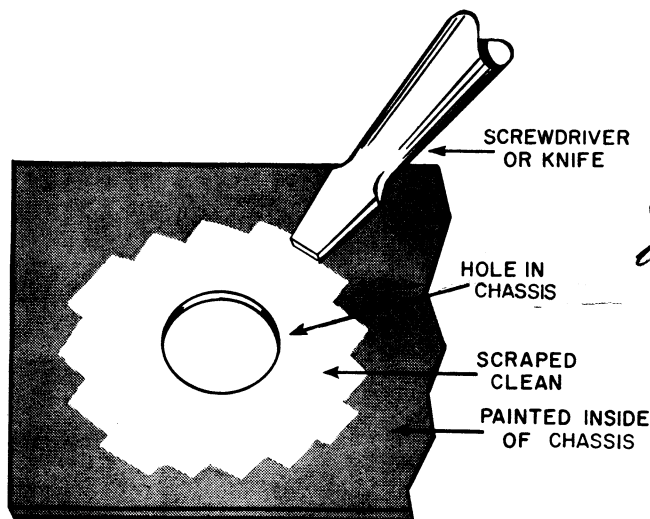

FIGURE 3.
- X ☐ From inside the chassis, scrape the paint from around the large hole that is used to mount the J-2 jack, as illustrated in Figure 3.